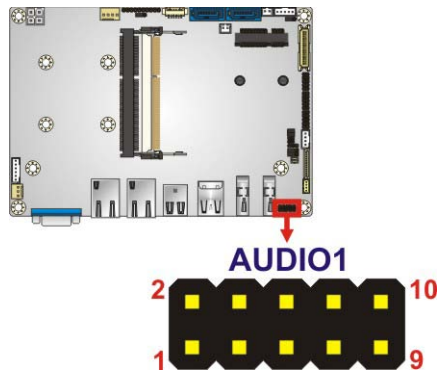

Figure 4-2: Audio Connector Location
- CN Location: See **Figure 4-2**